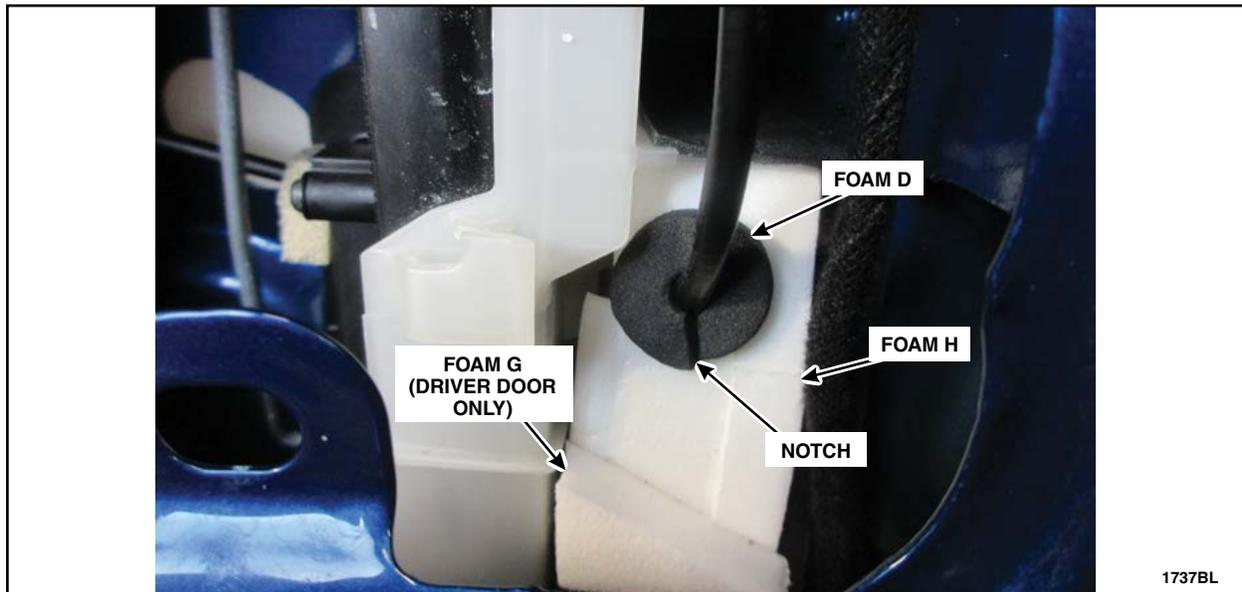

FIGURE 35
3. Install Foam D over the door latch cable and onto Foam H (driver door) and Foam B (passenger door) to cover the gap between the cable and Foam H. See Figure 35.